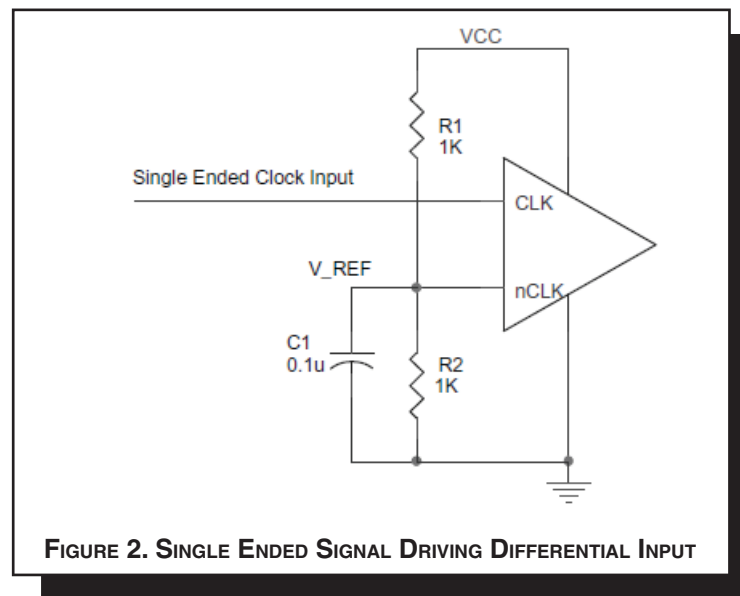

FIGURE 2. SINGLE ENDED SIGNAL DRIVING DIFFERENTIAL INPUT
*Figure 2* shows how the differential input can be wired to accept single ended levels. The reference voltage  $V_{REF} = V_{CC}/2$  is generated by the bias resistors R1, R2 and C1. This bias circuit should be located as close as possible to the input pin. The ratio